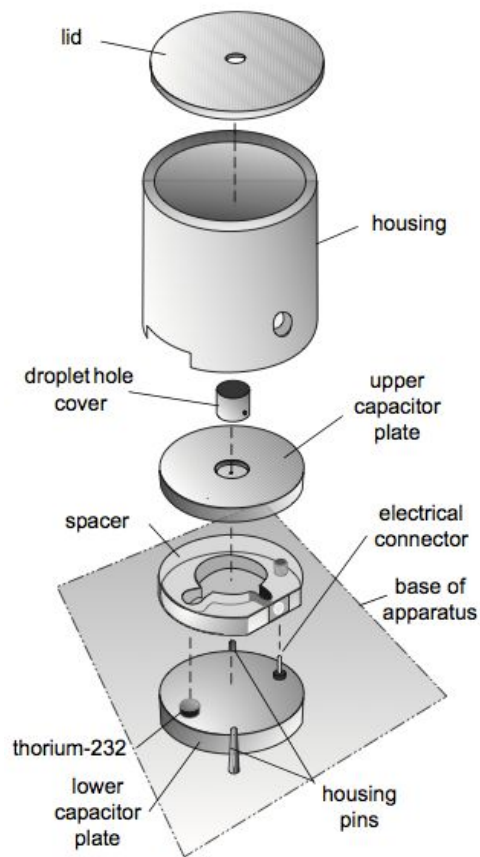

Figure 5: Droplet viewing chamber
- a. Disassemble the droplet viewing chamber (see Figure 5 below) to obtain the clear plastic spacer that separates the plates.